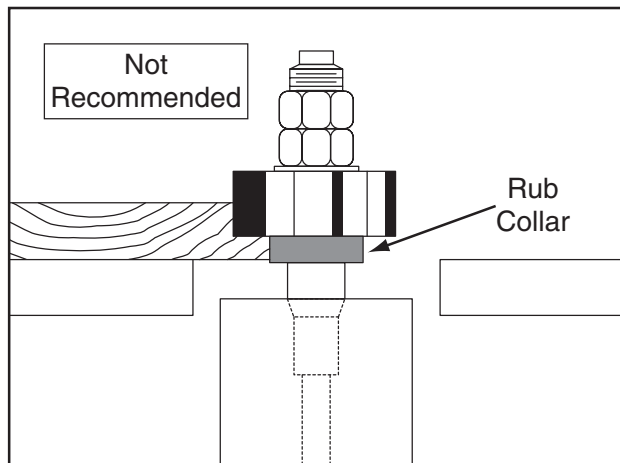

Figure 34. Rub collar installed below the cutter (not recommended).
- **Rub collar below the cutter:** When the rub collar is placed below the cutter, as illustrated in **Figure 34**, the progress of the cut can be observed. However, unintentional movement may lift the workpiece, damaging your work and increasing the risk of injury to the operator. *We DO NOT recommend using the rub collar below the cutter.*